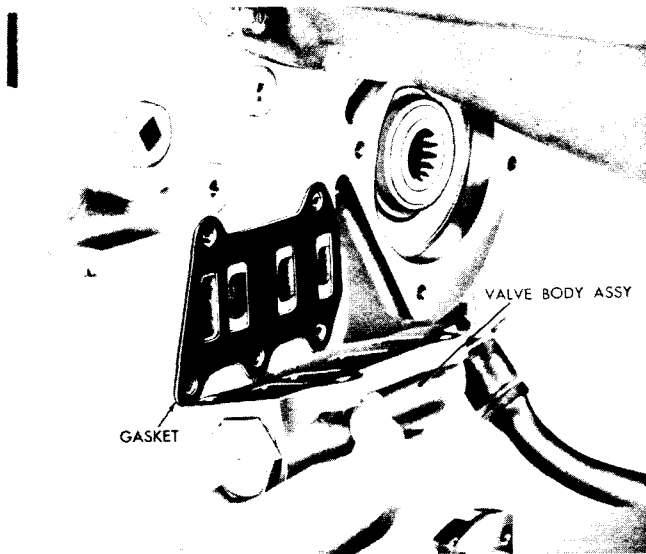

Fig. V-4. Removing (or installing) main-pressure regulator valve body assembly
(4) Remove five bolts and lock washers which retain the main-pressure regulator valve body assembly. Remove the valve body assembly and gasket (fig. V-4). Refer to sect. VI, para 9 and 10 for rebuild of regulator valve body assembly. The paragraph head will indicate the applicable rebuild paragraph.